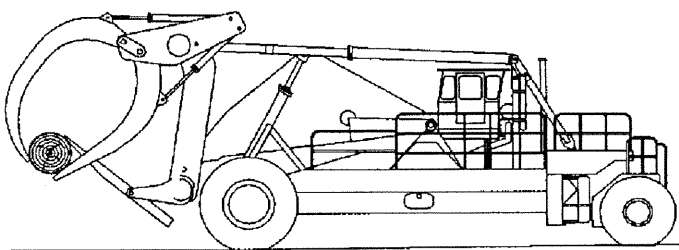

Fig 4-11
- Fig. 4-11 shows a good example of the Lumberjack's flexibility. The log is under the tines and is held by the holddown and kickoff arms. Partial loads should be held with the holddown and the kickoff arms.